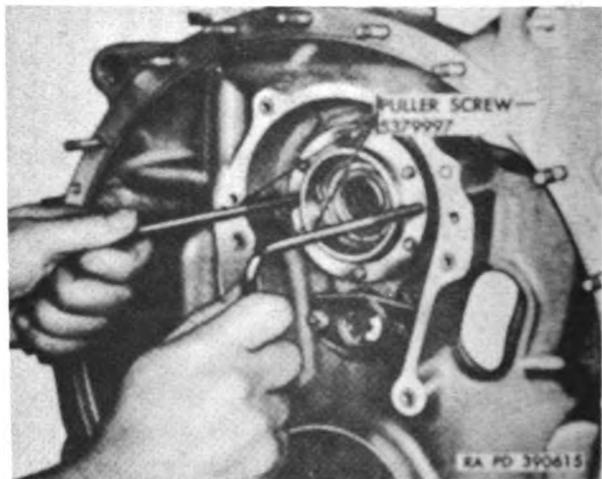

Figure 111. Removing fan drive shaft gear bearing liner.
- (1) Cut locking wire and remove six slotted hex nuts (S) and flat washers (T) securing fan drive shaft gear bearing liner (U) to accessory case.
- (2) Remove bearing liner (U), with attached fan drive shaft gear (W) and roller bearings (V and Y), from accessory case using two puller screws 5379997 (fig. 111).